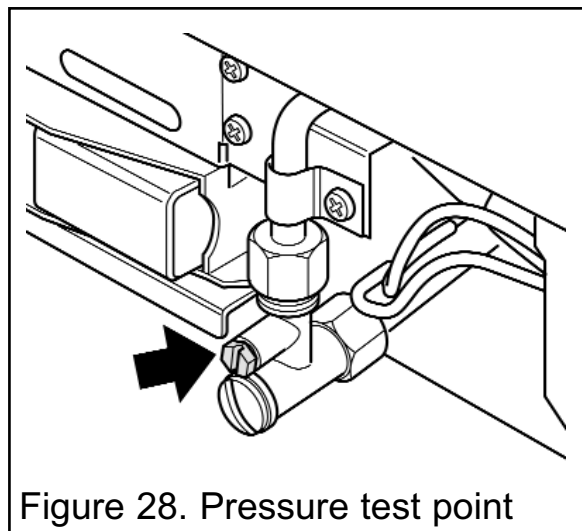

Figure 28. Pressure test point
1. Ensure that the fire is turned OFF before removing the pressure test point sealing screw. Check the inlet pressure by fitting a pressure gauge at the test point. The test point is on the inlet 'T' connector (See figure 28). Check the pressure with the appliance alight and set at maximum output.